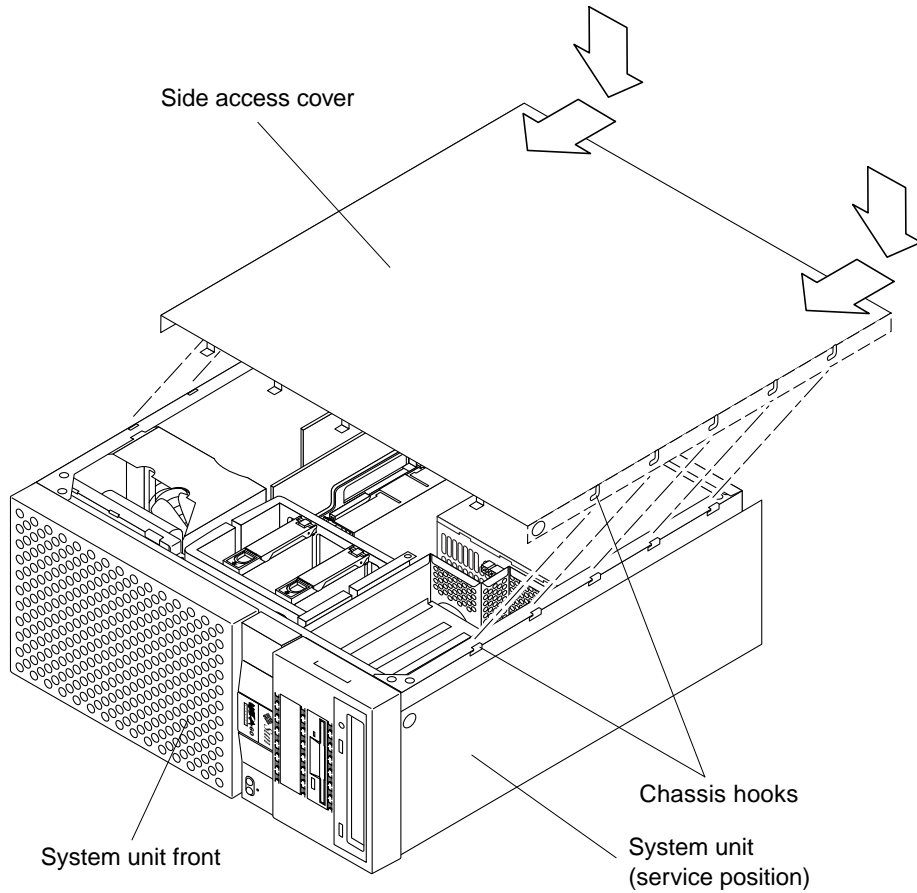

FIGURE 7-4 Replacing the Side Access Cover
1. **Position the side access cover (FIGURE 7-4).**